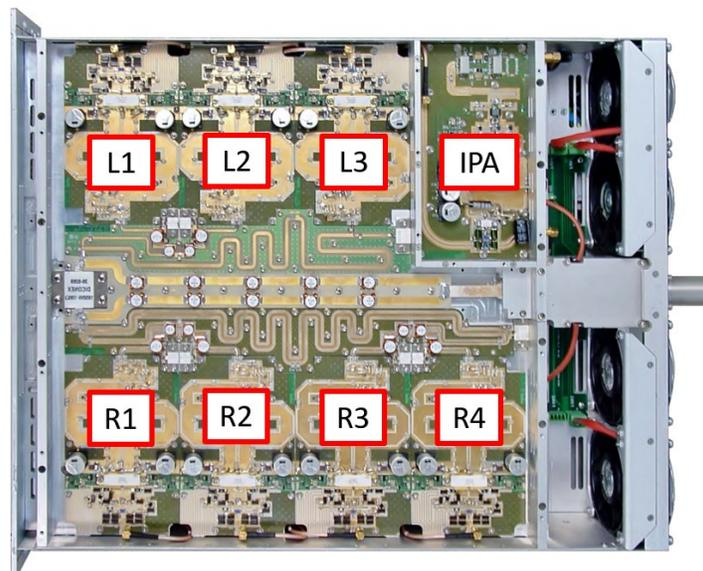

Figure 123: RF amplifier pallet positions, VHF 3.5 RU PA module
STEP 4: Carefully inspect inner workings of PA module for any obvious signs of damage. Look for signs of heat stress or burn marks. If a pallet is suspected of being damaged based on a GUI low/zero PA current reading, locate suspect pallet by its ID number in Figure 123.